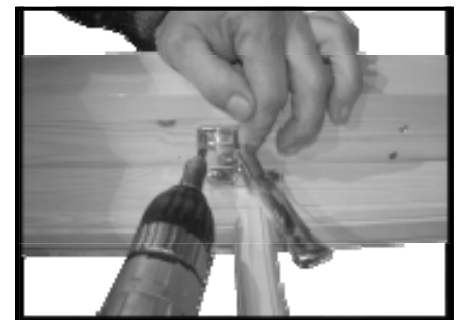

Fig A20
34. **Latch** Along side one of the horizontal bars in the window insert place the side latch on top of the draught excluder. (fig A20)
35. Use the pin to correctly place the lever and secure using 2x25mm screws for each part (Fig A20).